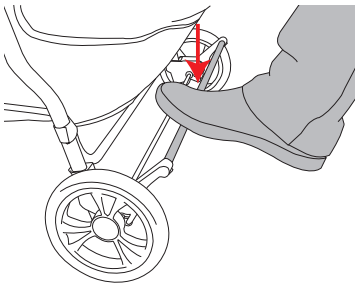

Figure 6
- To engage the rear wheel brakes, push down on one of the brake levers or the bar that connects the levers. See Figure 6.